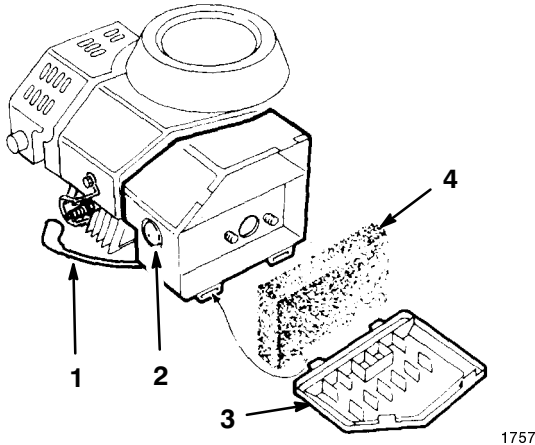

Figure 9
1. Connect the wire to the spark plug (Fig. 9).
3. Cover the hole in the center of the primer with your thumb and push it in once (Fig. 9).
1. Disconnect the wire from the spark plug (Fig. 9).